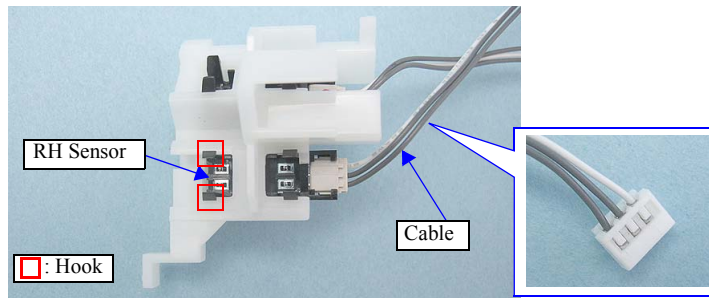
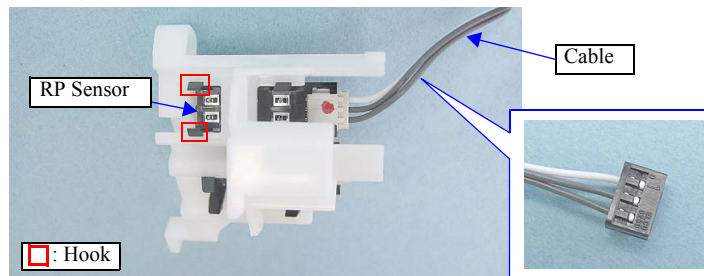

Figure 4-151. Removing the RH Sensor
Figure 4-152. Removing the RP Sensor
- When connecting the RH/RP Sensor Cables, correctly connect them referring to their color as shown in Figure.4-151 and Figure.4-152.